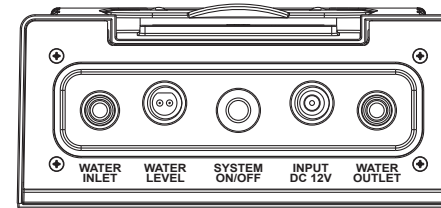
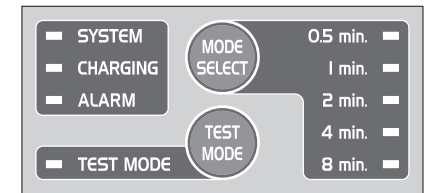

Figure 10
Figure 11
1) Turn on the control unit by the **SYSTEM ON/OFF** switch and the **SYSTEM** indicator on the panel will light as shown in **Figure 10** and **Figure 11**. **SYSTEM** indicator could be in one of the below three colors, proceed only when it is **Green**.
2) Press the **TEST MODE** button to test if the system works right. The system will work continuously regardless of the working minutes assigned by the active working mode until user stops the test by pressing the button again as shown in **Figure 11**.